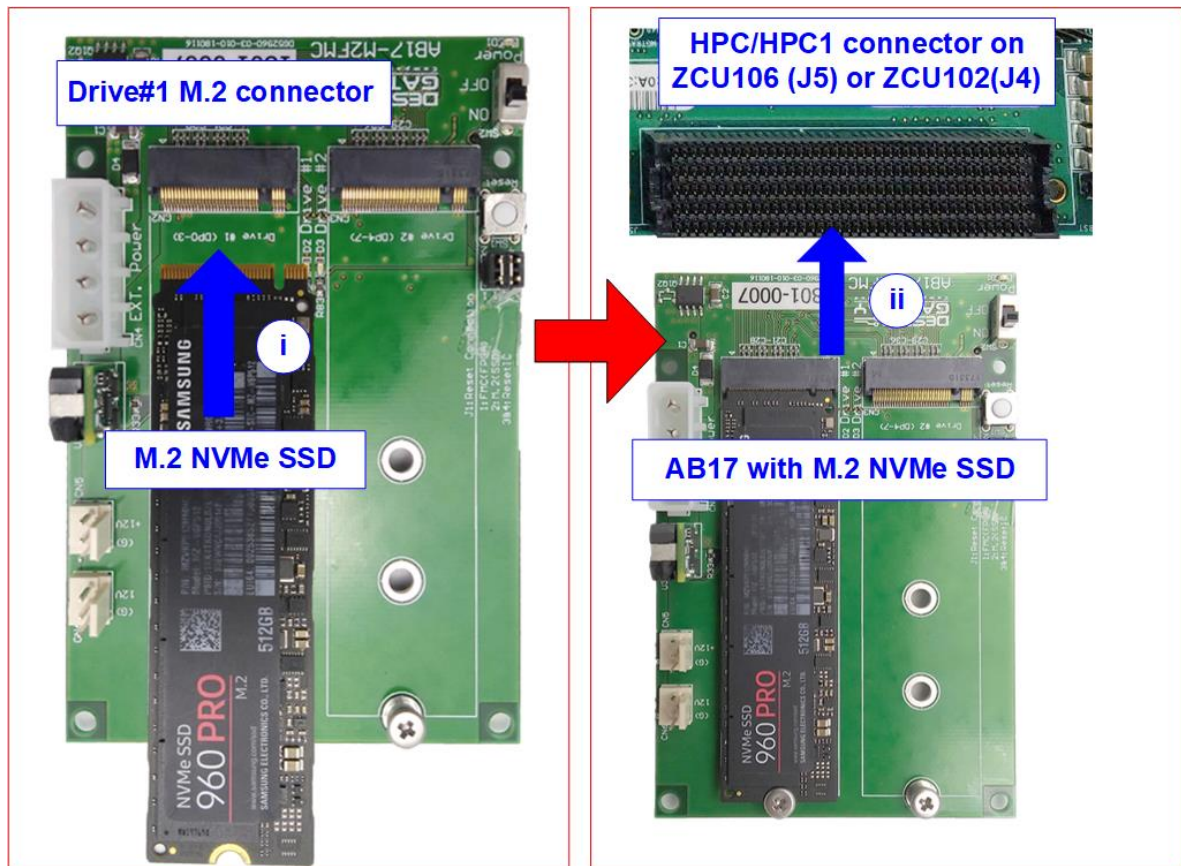

Figure 2-4 Connect AB17-M2FMC connection
- ii) Connect AB17-M2FMC to HPC/HPC1 connector on ZCU106(J5) or ZCU102(J4) as shown in Figure 2-4.